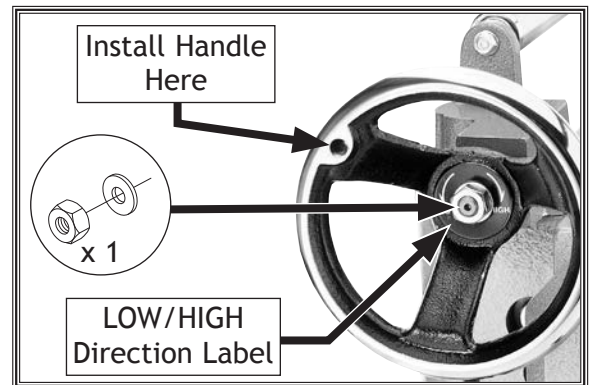

Figure 12. Table elevation handwheel installed.
6. Slide LOW/HIGH direction label onto handwheel shaft, and secure handwheel with 10mm flat washer and M10-1.25 hex nut (see **Figure 12**).
7. Thread handwheel handle into handwheel (see **Figure 12**), and tighten with wrench.